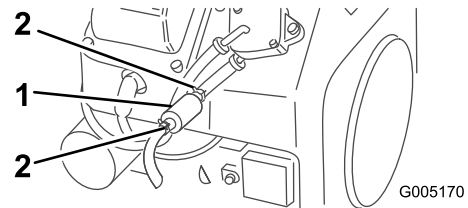

Figure 26
4. Squeeze the ends of the hose clamps together and slide them away from the filter (Figure 26).
5. Place a drain pan under the fuel lines to catch any leaks, then remove the filter from the fuel lines (Figure 26).